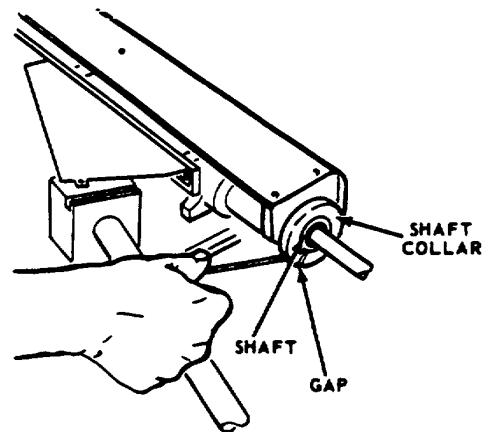

FIGURE 103
- (1) See Figure 103. Use 3/16-inch hex wrench to loosen screw in Shaft Collar.